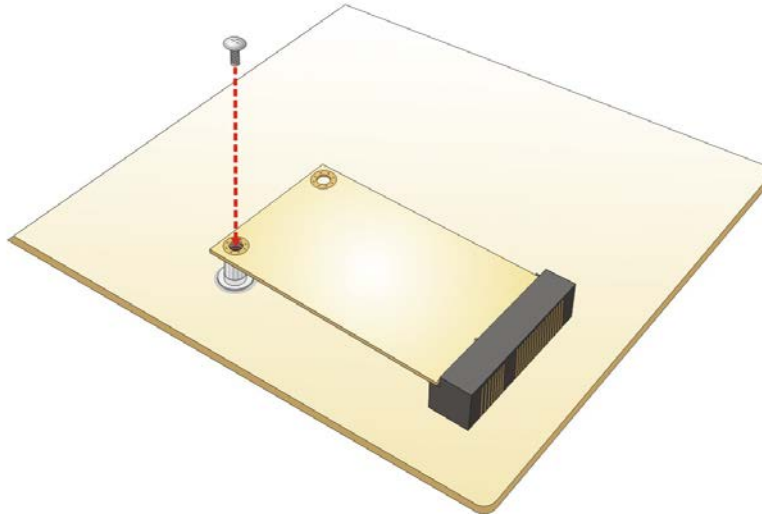

Figure 4-4: Securing the Full-size PCIe Mini Card
Step 4: Secure the full-size PCIe Mini card. Secure the full-size PCIe Mini card with the retention screw previously removed (**Figure 4-4**).